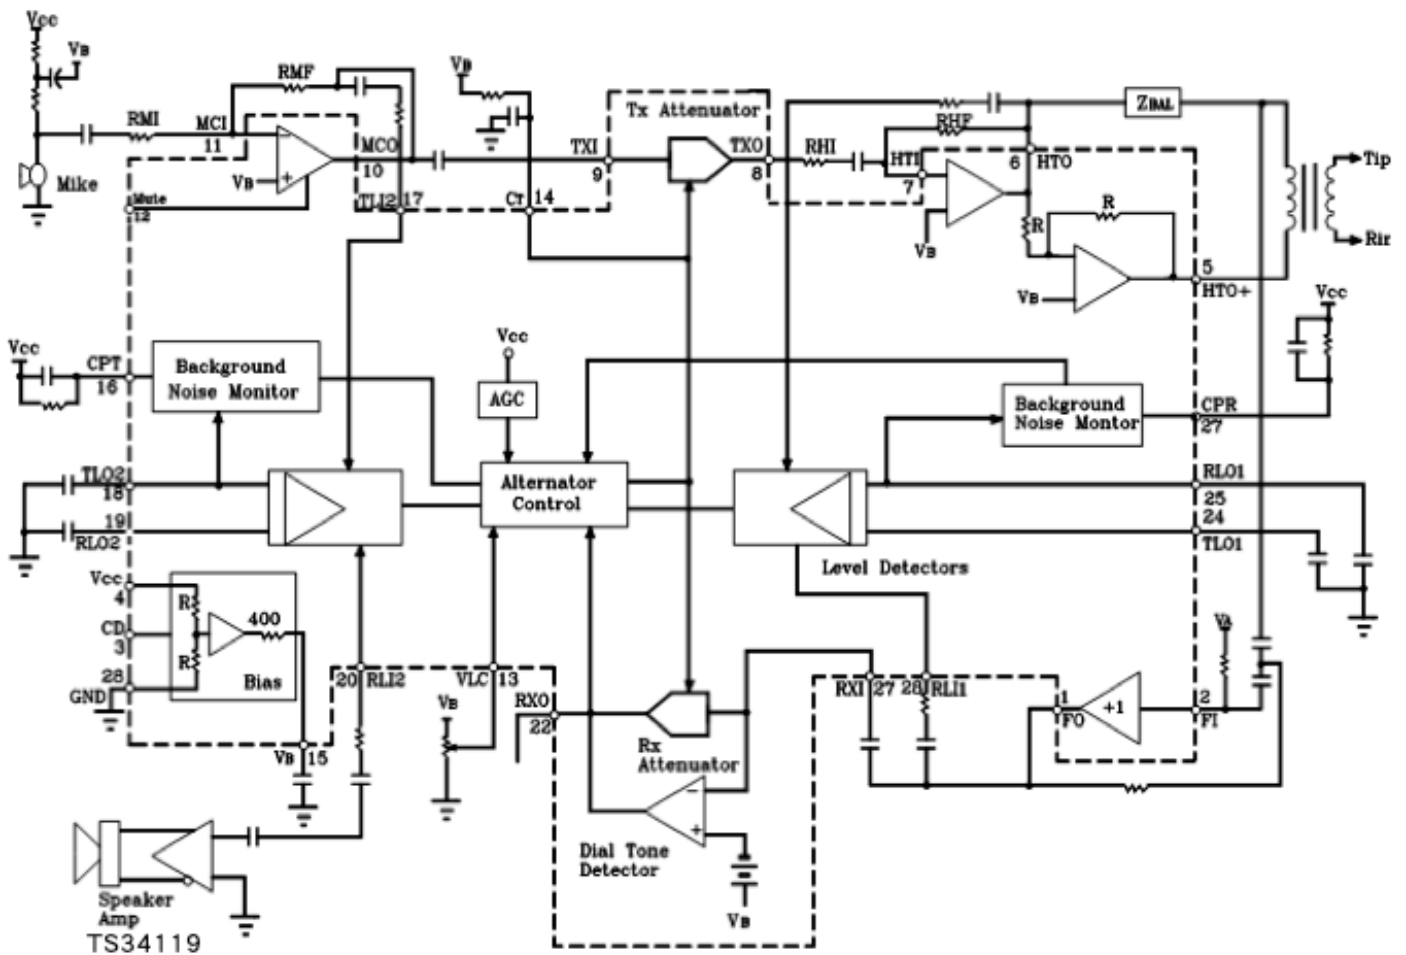
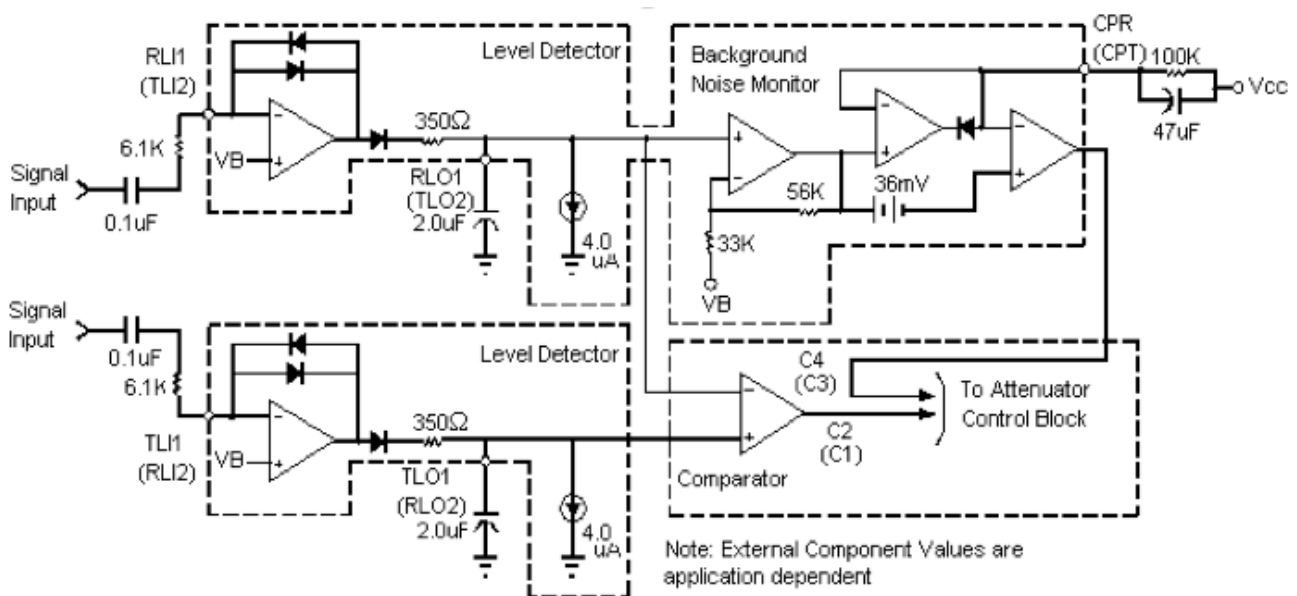
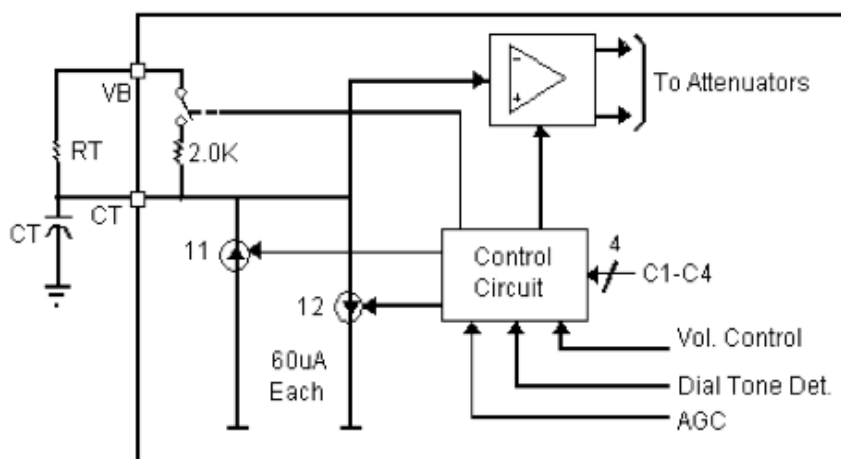

Figure 2. TS34118 Block Diagram
Figure 4. Level Detector
Figure 6. CT Attenuator Control block Circuit
The TS341118 provides the necessary level detectors, attenuators, and switching control for a properly operating speakerphone. The detection sensitivity and timing are externally controllable. Additionally, the TS34118 provides background nodule monitor’s which make the circuit insensitive to room and line noise, hybrid amplifier, and other associated functions, please refer to the Block Diagram (Figure 2) when reading the following sections.
There are four level detectors—two on the receive side and two on the transmit side. Refer to Figure 4. The terms in parentheses from one system, and the other terms from one system. Each level detector is a high gain amplifier with back-to-back diodes in the feedback path, resulting in non-linear gain, which permits operation over a wide dynamic range of speech levels. The sensitivity of each level detector is determined by the external resistor and capacitor at each input (TLI1, TLI2, RLI1 and RLI2). Each output charge an external capacitor through a diode and limiting resistor, thus providing a do representation of the input as signal level. The outputs have a quick rise time (determined by the capacitor and an internal 350Ω resistor), and a slow decay time set by an internal current source and the capacitor. The capacitors on the four outputs should have the same value (±10%) to prevent timing problems. Referring to Figure 2, on the receives side, one level detector (RLI1) is at the receive input receiving thus same signal as at Tip and Ring, and the other (PLI2) is at the output of the speaker amplifier. On the transmit side, one level detector (TLI2) is at the output of the microphone amplifier, while the other (TLI1) is at the hybrid output. Outputs RLO1 and TLO1 feed a comparator, the output of which goes to the Attenuator Control Block. Likewise, outputs RLO2 and TLO2 feed a second comparator which also goes to the Attenuator Control Block. The touch table for the effects of the level detectors on the Control Block is given in the section describing the Control Block.
The purpose of the background noise monitors is to distinguish speech (which consists of bursts) from background noise (a relatively constant signal level). There are two background noise monitors—one for the receive path and one for the transmit path. Referring to Figure 4, the receive background noise monitor is operated on by the RLI1-PLO1 level detector, while the transmit background noise monitor is operated on by the TLI2-TLO2 level detector. They monitor the background noise by storing a dc voltage representative of the respective noise levels in capacitors at CPR and CPT. The voltages at these pins have slow rise times (determined by the external RC), but fast decay times. If the signal at RLI1 (or TLI2) changes slowly, the voltage at CPR (or CPT) will remain more positive than the voltage at the non-inverting input of the monitor's output comparator. When speech is present, the voltage on the non-inverting input of the comparator will rise quicker than the voltage at the inverting input (due to the burst characteristic of speech), causing its output to change. This output is sensed by the Attenuator Control Block.
- 3) The circuit will switch to the fast idle mode if the level detectors disagree on the relative strengths of the signal levels, and at least one of the background noise monitors indicates speech. For example, referring to the Block Diagram (Figure 2), if there is sufficient signal at the microphone amp output (TLI2) to override the speaker signal (RLI2), and there is sufficient signal at the receive input (RLI1) to override the signal at the hybrid output (TLI1), and either or both background monitors indicate speech, then the circuit will be in the fast idle mode. Two conditions which can cause the fast idle mode to occur are a) when both talkers are attempting to gain control of the system by talking at the same time, and b) when one talker is in a very noisy environment, forcing the other talker to continually override that noise level. In general, the fast idle mode will occur infrequently.
The time required to switch the circuit between transmit, receive, fast idle and slow idle is determined in part by the components at the CT pin (pin 14). (see the section on Switch Time for a more complete explanation of the switching time components). A schematic of the CT circuitry is shown in Figure 6, and operates as follows:
The two hybrid amplifiers (at HTO+, HTO-, and HTI), in conjunction with an external transformer, provide the two-to four wire converter for interfacing to the telephone line. The gain of the first amplifier (HTI to HTO-) is set by external resistors (gain=-RHF/PHI in Figure 2), and its output drives the second amplifier, the gain of which is internally set at -1.0. Unlike most op-amps, the amplifiers have all-NPN output stage, which maximizes phase margin and gain-bandwidth. This feature ensures stability at gains less than unity, as well as with a wide range of reactive loads. The open loop gain of the first amplifier is typically 80dB , and the gain bandwidth of each amplifier is ≈1.0MHz (see Figure 16). The maximum p-p output swing of each amplifier is typically 1.2 volts less than Vcc with an output impedance of <10Ω until current limiting is reached (typically 8.0mA). The output current capability is guaranteed to be a minimum of 5.0mA. The bias current at HTI is typically 30nA out of the pin.
The connections to the coupling transformer are shown in the Block Diagram (Figure 2). The block labeled Zbal is the balancing network necessary to match the line impedance.
The operation of the filter circuit is determined by the external components. The circuit within the TS34118, from pins FI to FO is a buffer with a high input impedance (>1.0MΩ), and a low output impedance (<50Ω). The configuration of the external components determines whether the circuit is a high-pass filter (as shown in Figure 2), a low-pass filter, or a band-pass filter.
The switching time of the TS34118 circuit is dominated by the components at C_T (pin 14, refer to Figure 6), and secondarily by the capacitors at the level detector outputs (RLO1, RLO2, TLO1, TLO2).
The time to switch to receive or to transmit from idle is determined by the capacitor at C_T, together with the internal current sources (refer to Figure 6). The switching time is:
The switching time from either receive or transmit to idle depends on which type of idle mode is in effect. If the circuit is going to “fast idle”, the time constant is determined by the C_T capacitor, and the internal 2.0K Ω resistor (Figure 6). With C_T = 5.0 μF , the time constant is $\approx 30\text{ms}$ (for 95% change). Fast idle is an infrequent occurrence, however, occurring when both speakers are talking and competing for control of the circuit. The switching time from idle back to either transmit or receive is described above.
If the circuit is switching to “slow idle”, the time constant is determined by the CT capacitor and RT, the external resistor (see Figure 6). With $CT = 5.0\mu F$, and $RT = 120K\Omega$, the time constant is $\approx 600ms$, giving a switching time of ≈ 1.8 seconds (for 95% change). The switching period to slow idle begins when both speakers have stopped talking. The switching time back to the original mode will depend on how soon that speaker begins speaking again. The sooner the speaking time starts during the 1.8 seconds period, the quicker the switching time since a smaller voltage excursion is required. That switching time is determined by the internal current sources as described above. The above switching times occur, however, after the level detectors have detected the appropriate signal levels, since their outputs operate the Attenuator Control Block. Referring to Figure 4, the rise time of the level detector’s outputs to new speech is quick by comparison ($\approx 1.0ms$), determined by the internal 350Ω resistor and the external capacitor (typically $2.0\mu F$). The output’s decay time is determined by the external capacitor, and an internal $4.0\mu F$ current source giving a decay rate of $\approx 60ms$ for $120mV$ excursion at RLO or TLO. However, the overall response time of the circuit is not a constant since it depends on the relative strength of the signals at the different level detectors, as well as the timing of the signals with respect to each other. The capacitors at the four outputs (RLO1, RLO2, TLO1, TLO2) must be equal value ($\pm 10\%$) to prevent problems in timing and level response. The rise time of the level detector’s outputs is not significant since it is so short. The decay time, however, provides a significant part of the “hold time” necessary to hold the circuit during the normal pauses in speech. The components at the inputs of the level detectors (RLI1, RLI2, TLI1, TLI2) do not affect the switching time, but rather affect the relative signal levels required to switch the circuit, as well as the frequency response of the detectors.